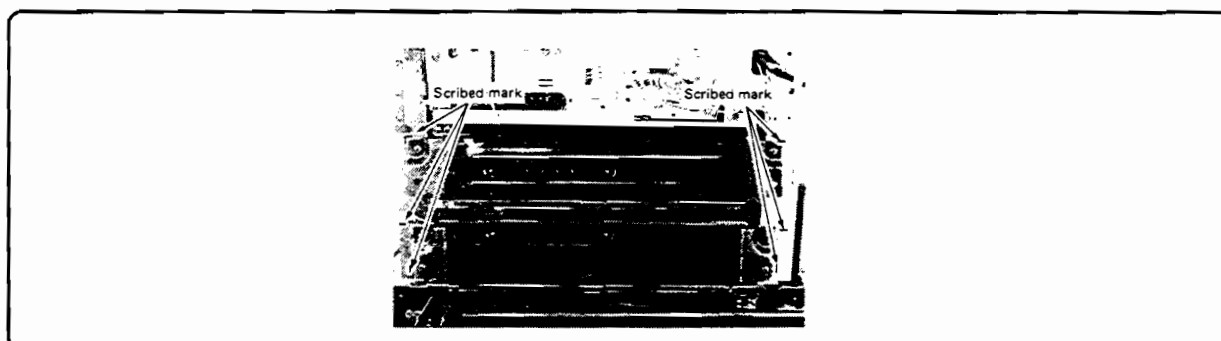

Figure 6-101. Scribe Marks for Cassette Alignment
6. Mark the horizontal alignment position of the cassette holders (Figure 6-101).